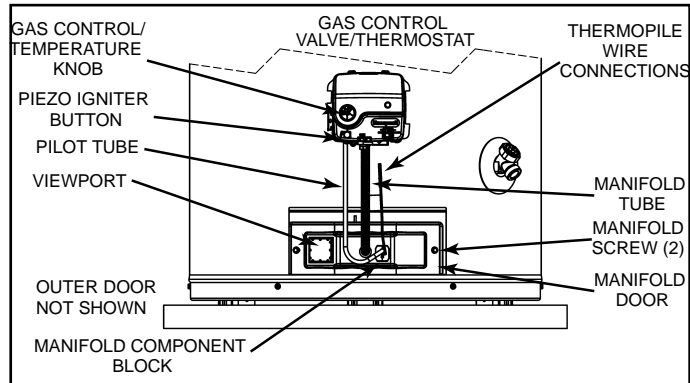

FIGURE 23
8. Remove the screws (1/4" nut driver) securing the manifold/burner assembly to the combustion chamber. See Figure 23.